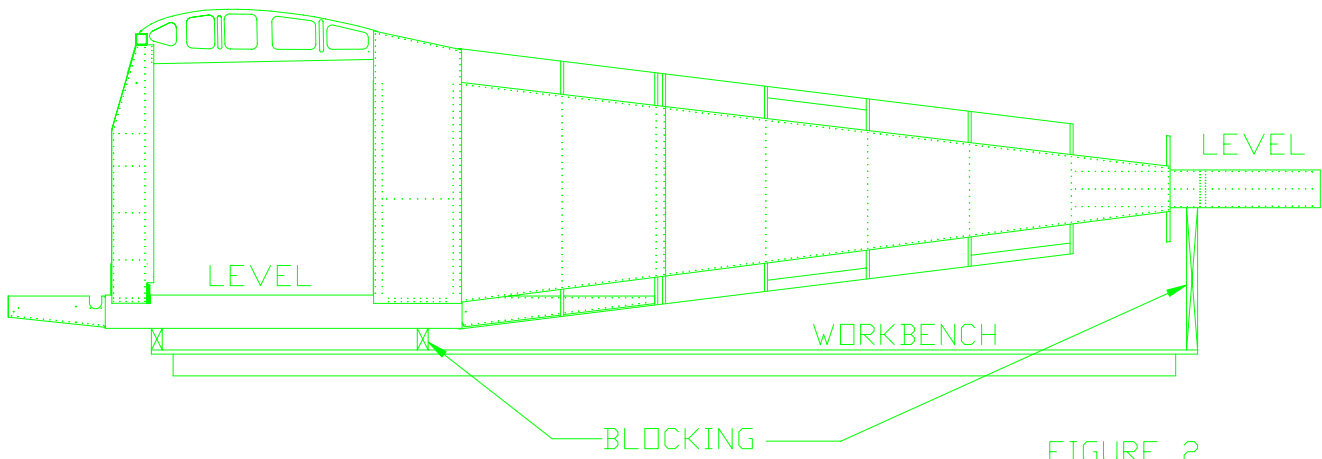

FIGURE 2
3) Level and secure the cabin to the workbench. Block the tailcone up with 2 x 4's and slide into position. Cleco the FUS-339 side skins of the tailcone to the FUS-337 fuselage side skins. The tailcone side skins should go behind the FUS-337 fuselage side skins. Figure 2.